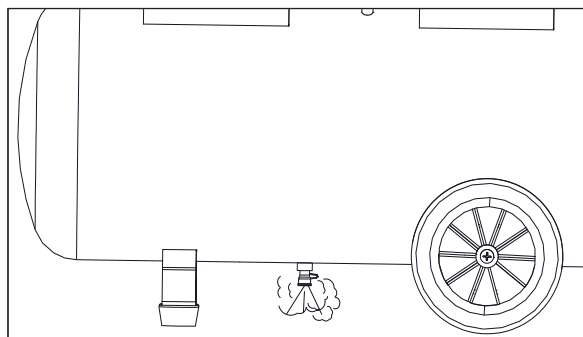

Figure 6
2. Open the bottom tank drain valve (see Figure 6).